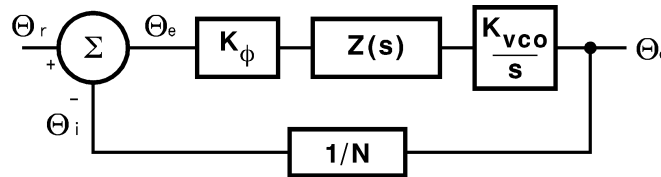
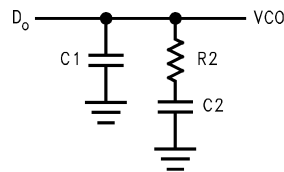

Figure 23. PLL Linear Model
Figure 24. Passive Loop Filter
A linear control system model of the phase feedback for a PLL in the locked state is shown in Figure 23. The open loop gain is the product of the phase comparator gain (K_ϕ), the VCO gain (K_{VCO}/s), and the loop filter gain $Z(s)$ divided by the gain of the feedback counter modulus (N). The passive loop filter configuration used is displayed in Figure 24, while the complex impedance of the filter is given in Equation 1.